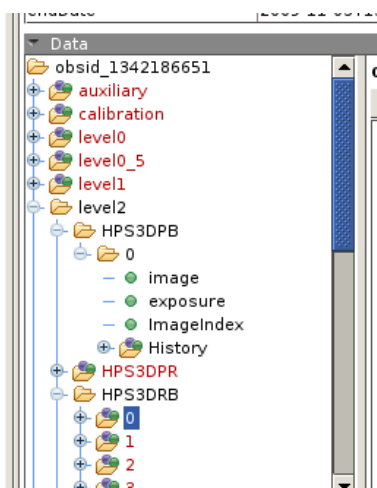

Figure 1.3. A further inspection of your ObservationContext
- # The SpectrumExplorer (SE). This is a spectral visualisation tool for sets of 1d spectra and the *SpectralSimpleCube* and the *PacsRebinnedCube*. It allows for an inspection and comparison of spectra from individual spaxels. It is a very useful quick-look and quick-compare for the spectra from your cube, and highly recommended as a first look tool. The *DAG* provides a guide to the use of the SpectrumExplorer; you use it on the individual HPS3Dxxx products.
- # The SFTool and other mathematics tasks. The SpectrumFitterTool will allow you to fit and do mathematics on your spectra, and can be accessed via the right-click menu item "Tasks". To access the SFTool, click-highlight the *SpectrumSimpleCube* (the numbered entry, e.g. +0, not the "HPS3Dxxx" entry, see Fig. 1.3); go to the Task panel; and double click on Applicable. All applicable tasks will be listed, this will include various mathematical tasks and the SFTool. The *DAG* explains the use of these tasks.
If you have a version of HIPE for which the GUIs do not work with the *PacsRebinnedCube* you will have to use a command line method (more of which is in Chap. 3). You will first need to extract the cube it out of the ObservationContext, the easiest way being to drag the cube from the Data panel of the Observation viewer to drop it in the Variables panel. You need to drag the "+0" entry of your cube (see Fig. 1.3), not the "HPS3Dxxx" entry. When in the Variables panel you can (right-click) rename it. Here we call it "mycube". Then you can plot out spectra from the (5x5) spaxels with the command